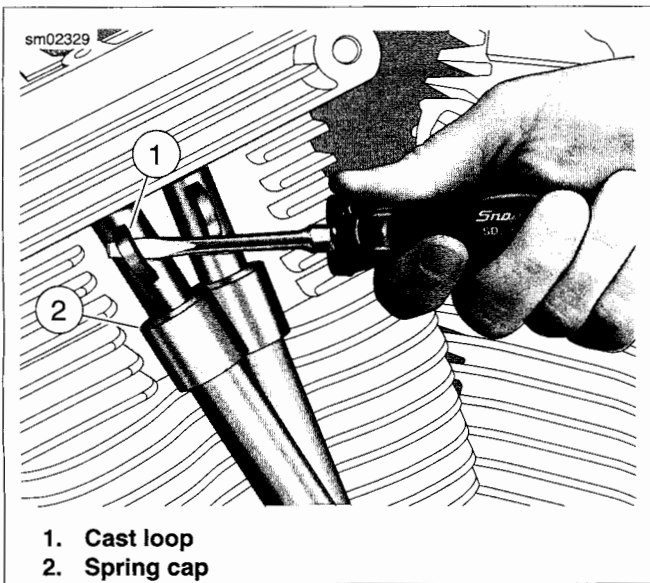

Figure 3-18. Removing Spring Cap Retainer
1. See Figure 3-18. Insert the blade of a small screwdriver into cast loop (1) of spring cap retainer (at top of upper push rod cover). While pushing down on spring cap (2), rotate bottom of screwdriver toward outboard side to remove. Repeat step on second push rod cover.